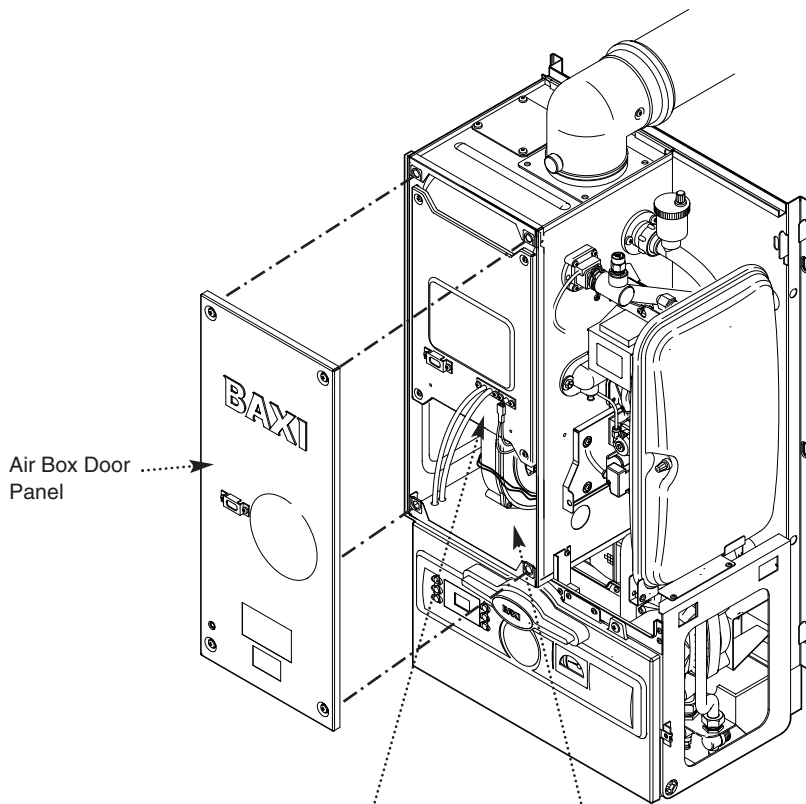

Fig. 75
1. Remove the airbox door panel by loosening the four $\frac{1}{4}$ turn screws (Fig. 75).